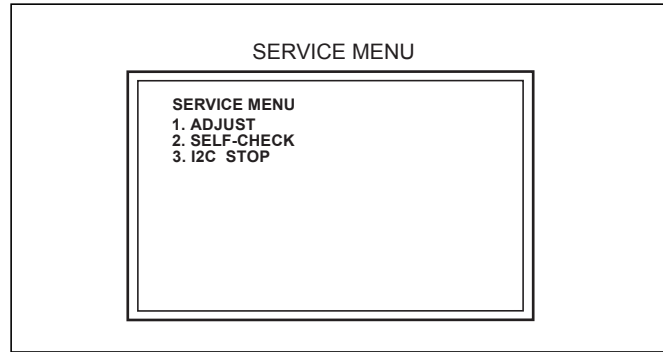
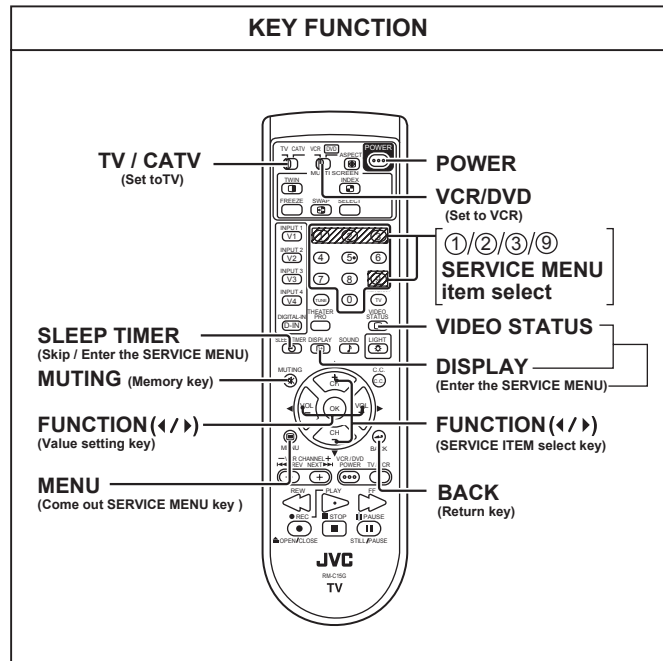

Fig.1
Fig.2
- (1) Press the [SLEEP TIMER] key and while indication of "SLEEP TIMER 0 MIN." is being displayed, press [DISPLAY] key and [VIDEO STATUS] key simultaneously, and the SERVICE MENU screen of Fig.1 will be displayed.
- Individual items 1, 2 and 3 on the SERVICE MENU screen (Fig.1) are selected by the Number key (Fig.2).